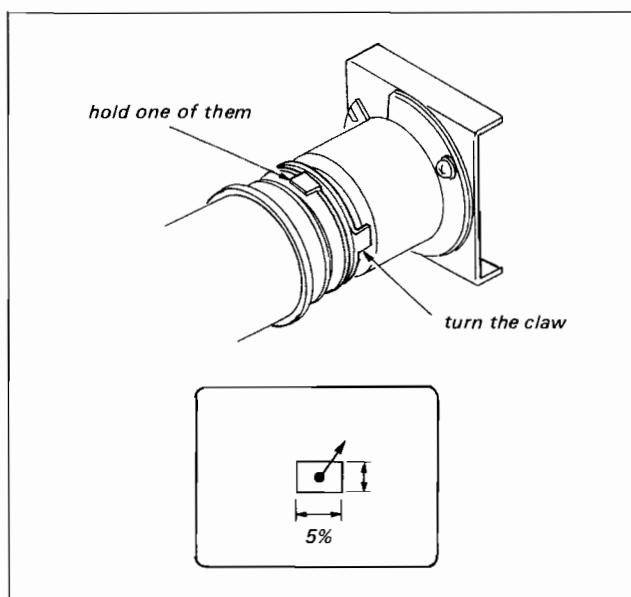

Fig. 8-2. Alignment magnet adjustment
- (1) While holding one of the two alignment magnets with finger securely shown in Fig. 8-2, turn the other magnet slightly to find the point where the object (in the center of the monitor screen) shift is within 5% of the monitor size even though R7 (FOCUS)/PA-1 is turned  $45^\circ$  and is then turned  $45^\circ$ .